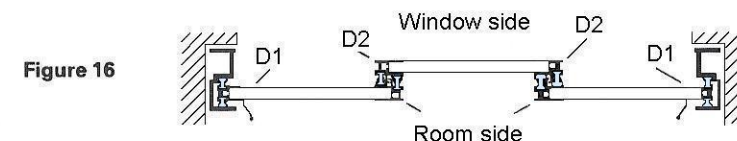

Figure 16
Both the outer panes must run in the front track channel. (See Figure 16).
- b) Before fixing, ensure that both side tracks are positioned the same way, with the small rib on the window side of each track, and projecting towards the centre of the window (See Figure 16).
Using the extra lengths of Section D2 provided in the Multipane kit, follow the general procedure given in Instruction 4, but refer to Figure 16 or 19 as appropriate for the positioning of the vertical glass carrier sections.